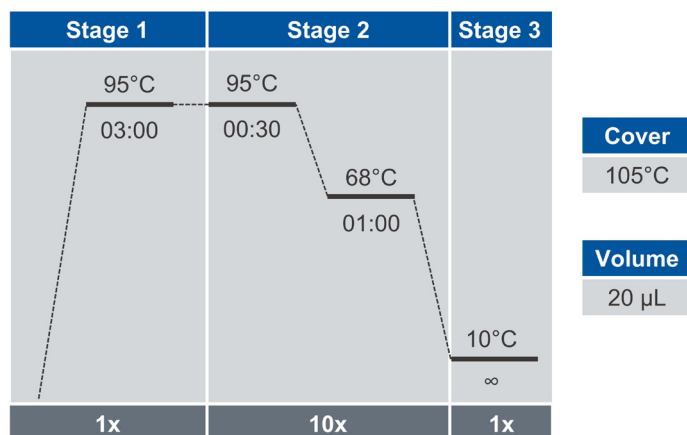

Figure 39. Olink Index PCR2 program
During this step, the prepared PCR2 Mix is mixed with the samples along with index primers using the epMotion®. The samples are then subjected to a second PCR reaction (Figure 39).
- Click *Open* and select the program *Olink Index PCR2* (Figure 39). Click *Start*.